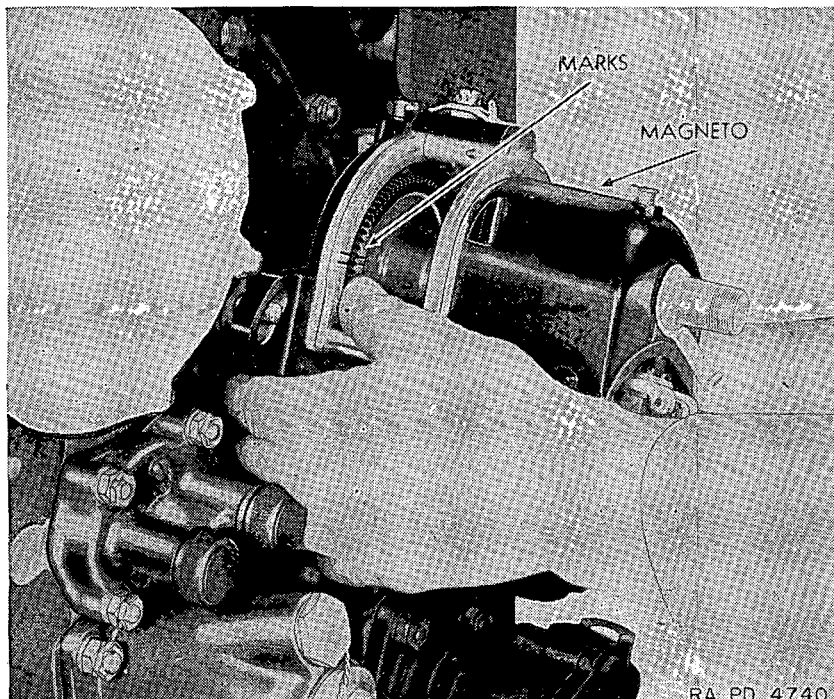

FIGURE 25.—Magneto timing and installation, Continental engine.
d. Replacement (fig. 25).—The following procedure, covering removal and installation of the magnetos and the retiming operation, must be closely observed if the replacement is to result in a smoothly running engine.